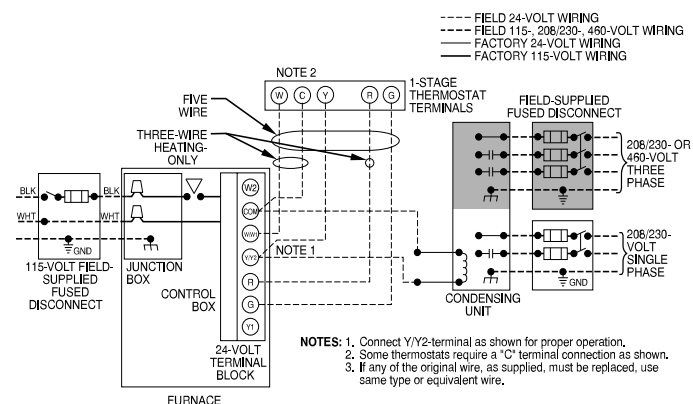

Fig. 34 – Typical Two-Stage Field Wiring Diagram A230059
See Fig. 34 for field wiring diagram showing typical field 115-V wiring. Check all factory and field electrical connections for tightness.
6. Connect power cord power and neutral leads to furnace power leads as shown in Fig. 34.
5. Connect field power and neutral leads to furnace power leads, as shown in Fig. 34.
Make field 24-V connections at the 24-V terminal strip. See Fig. 39. Connect terminal Y/Y2 as shown in Fig. 34 for proper cooling operation. Use only AWG No. 18, color-coded, copper thermostat wire.